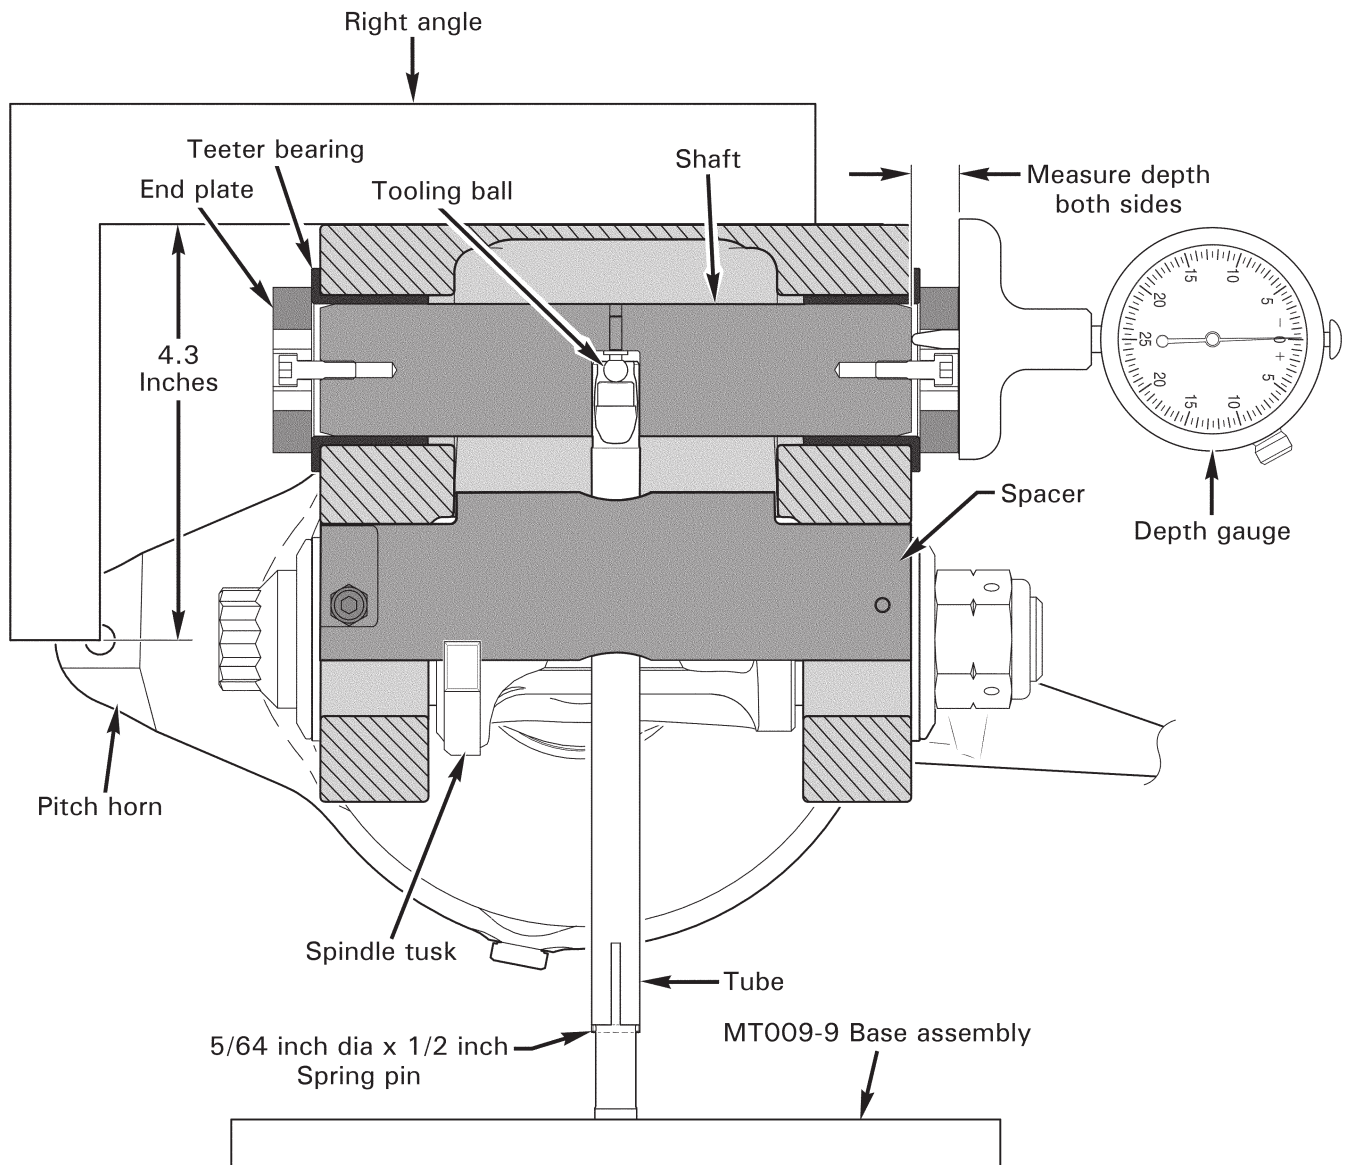

FIGURE 62-8B MEASURING GAP BETWEEN THRUST WASHER AND HUB BEARING
6. Refer to Figure 62-8B. Adjust pitch horns to dimension shown and verify blade pitch angles are approximately equal. If blade pitch angles are not equal, then pitch horn(s) are not correctly installed.
8. Refer to Figure 62-8B. Insert depth micrometer (or depth gauge) thru either hole of end plate; measure depth from end plate to shaft, repeat on opposite side of hub. Determine side of hub with smaller measured distance and mark top of hub with letter "N" to indicate nut-side of teeter hinge bolt.